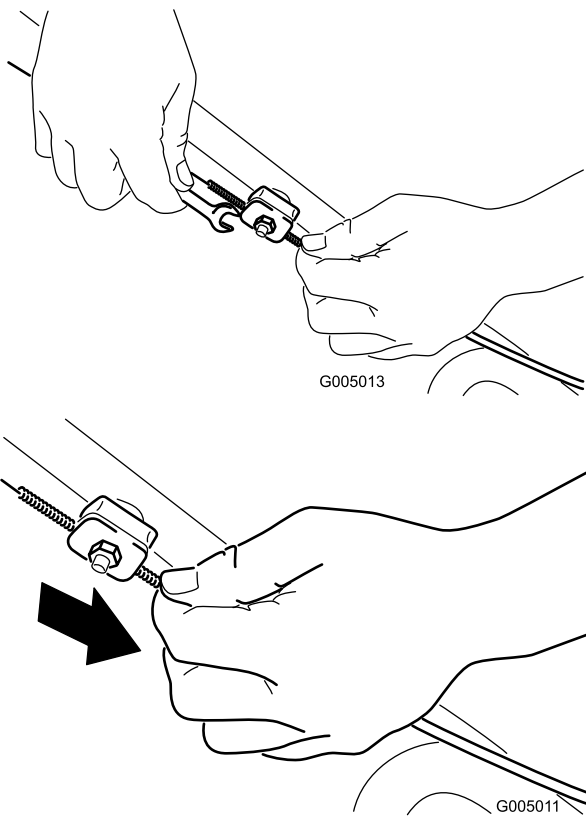

Figure 20
1. Loosen the cable support nut (Figure 20).
2. Pull down the cable jacket (toward the mower) until there is no slack in the cable (Figure 20).